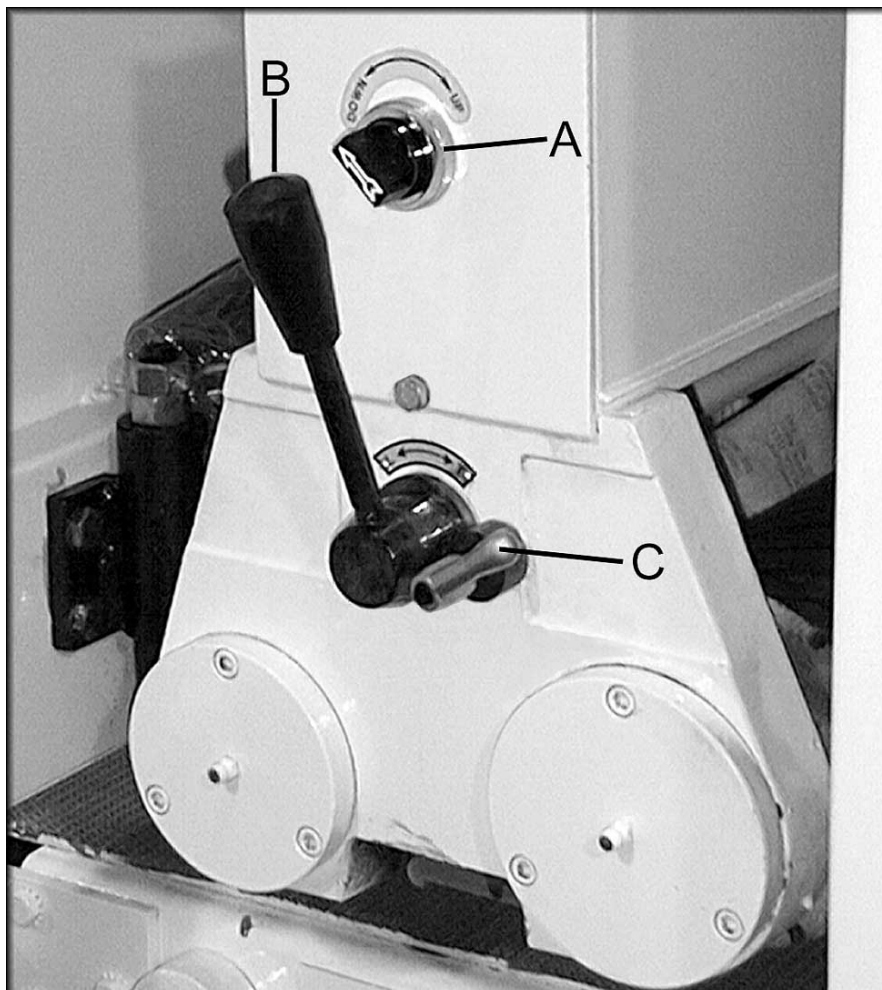

Figure 1. Sanding belt and platen adjustment controls.
4. Release the air pressure that is supporting the top roller by turning knob (A) counterclockwise to the down position. Refer to Figure 1.
7. Rotate belt tensioning knob (A) clockwise to tighten the belt.
1. Raise the platen all the way up by loosening the platen lock lever (C), and rotating the platen adjustment lever (B) counterclockwise. Refer to Figure 1.
3. Bring the platen into contact with the board by rotating the platen height adjustment lever clockwise, and while maintaining moderate pressure on it, tighten the platen lock lever (C).
Safety Switches - There are safety switches mounted near the top roller on both sides of the belt that will stop the sander if the belt touches either one while it is oscillating back and forth. The safety switches are there to prevent the belt from tracking off of the top idler roller. If the sanding belt trips one of these switches, loosen the sanding belt by turning knob (A) in Figure 1 counter clockwise. Reposition the belt and retighten the sanding belt. Restart the machine. If the problem persists, notify the Shop Leader so he can adjust the tracking mechanism.